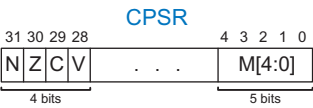

Figure 6.6 Current Program Status Register (CPSR)
Programs would be boring if they could only run in the same order every time. ARM instructions optionally set *condition flags* based on whether the result is negative, zero, etc. Subsequent instructions then execute *conditionally*, depending on the state of those condition flags. The ARM condition flags, also called *status flags*, are negative (N), zero (Z), carry (C), and overflow (V), as listed in Table 6.2. These flags are set by the ALU (see Section 5.2.4) and are held in the top 4 bits of the 32-bit *Current Program Status Register (CPSR)*, as shown in Figure 6.6.